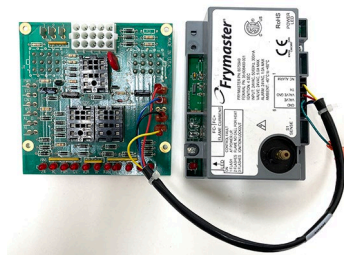

Figure 7
5. Attach the other end of the 8075986 harnesses to the GIVEG board using the **Full Vat** (Old GIVEG Two Fenwal Modules) chart to the right, for wire connections, (see Figure 7). **NOTE:** Both harnesses have a blue/white wire.
GIVEG Two Fenwal Modules) chart to the right, for wire connections, when attaching to the modules (see Figures 7 above). **NOTE:** Both harnesses have a solid blue wire.